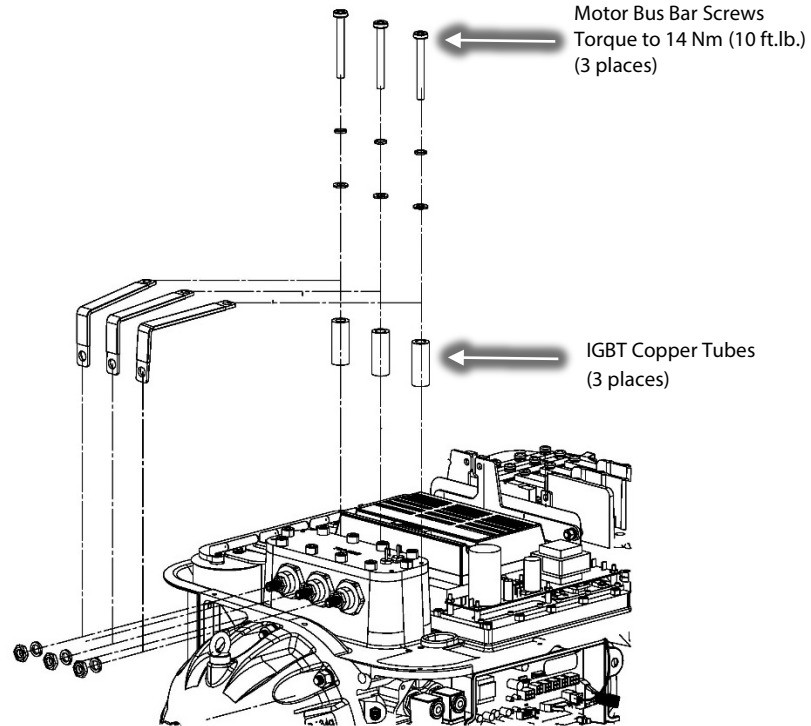

Figure 15 – Copper Tube Removal
23. Remove the Motor Bus Bar screws, copper tubes, and washers from the Inverter. Refer to Figure 15 (Motor Bus Bar Removal).
NOTE: The Motor Bus Bars do not need to be removed. Figure 15 (Motor Bus Bar Removal) is only used to provide clarification of the individual components.